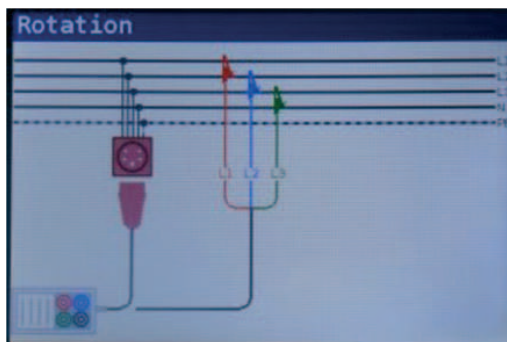

Figure 4-30: Connection of universal test cable and optional three phase cable
Step 2 Connect test cable to the instrument and follow the connection diagram shown in figure 4.30 to test phase sequence.